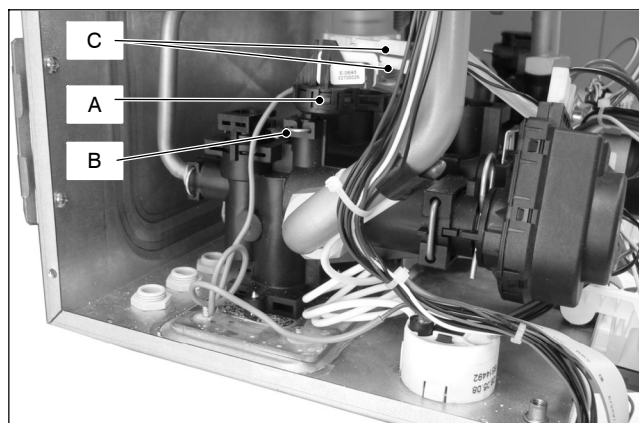

Fig. 12.3
- 2 Remove the fixing spring B (Fig. 12.3) and remove the primary circuit pressure switch A.
- 3 Disconnect the connectors C (Fig. 12.3).